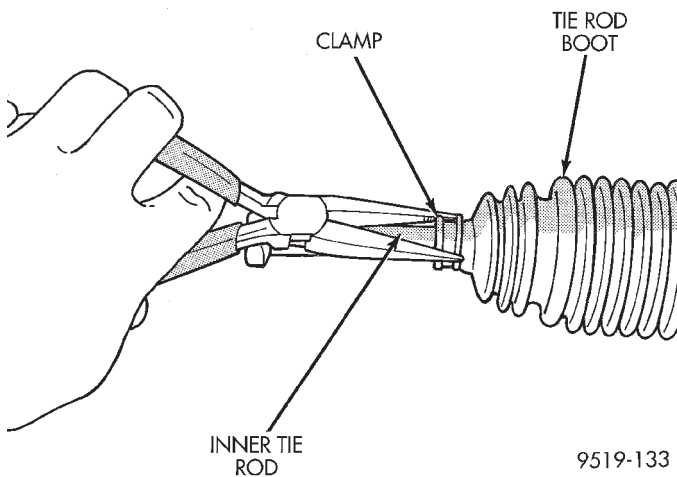

Fig. 28 Tie Rod Boot Clamp Removal
(7) Using pliers expand tie rod boot clamp, (Fig. 28) and remove from tie rod boot.
(3) Lubricate inner tie rod boot groove with silicone type lubricant, then install tie rod boot to inner tie rod clamp (Fig. 28). (Clamp will have to be loosened for toe adjustment.)